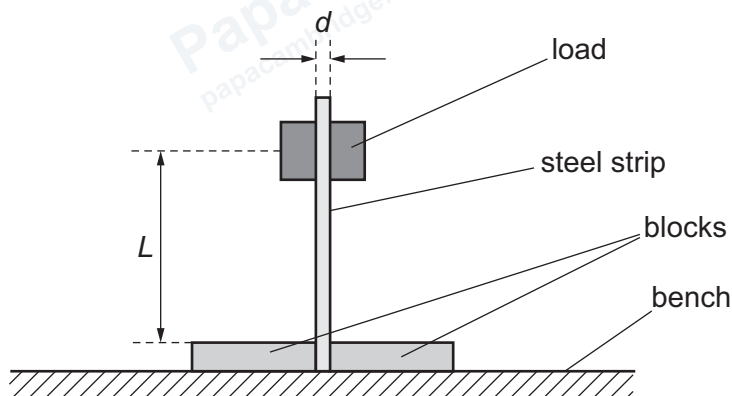

Figure 2.1
- 2 A student places a steel strip of thickness d and width w between two blocks that are fixed to the bench. A load is added to the strip as shown in Figure 2.1.